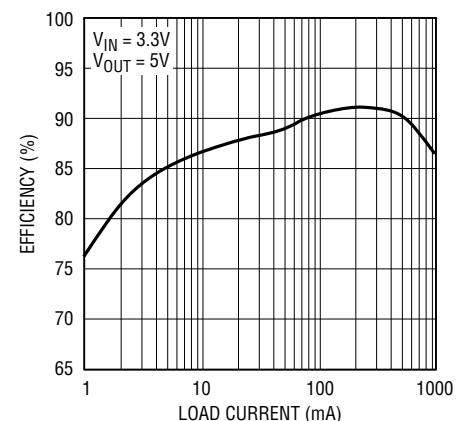

Figure 1. LTC1872B High Output Current 3.3V to 5V Boost Converter
*Output ripple waveforms for the circuit of Figure 1 appear in Figure 2.
Figure 2 illustrates this result for the circuit of Figure 1 using both an LTC1872 in Burst Mode operation and an LTC1872B (non-Burst Mode operation). At an output current of 50mA, the Burst Mode operation part exhibits an output ripple of approximately 80mV_{P-P}, whereas the non-Burst Mode operation part has an output ripple of ≈45mV_{P-P}. At lower output current levels, the improvement is even greater. This comes at a trade off of slightly lower efficiency for the non-Burst Mode operation part. Also notice the constant frequency operation of the LTC1872B, even at 5% of maximum output current.
(2a) V_{OUT} Ripple for Figure 1 Circuit Using LTC1872 Burst Mode Operation
(2b) V_{OUT} Ripple for Figure 1 Circuit Using LTC1872B Non-Burst Mode Operation